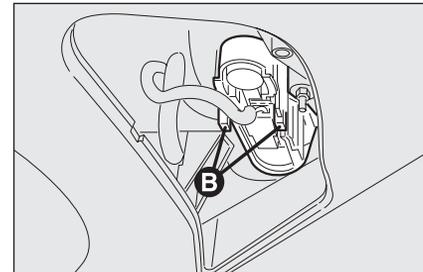

fig. 32
- remove the bulb holder unit by pressing the retaining tabs **B**-fig. 32;
- remove the bulb holder unit by pressing the retaining tabs **B-fig. 32**;
- refit the bulb holder unit securing it properly using the retaining tabs **B-fig. 32**;